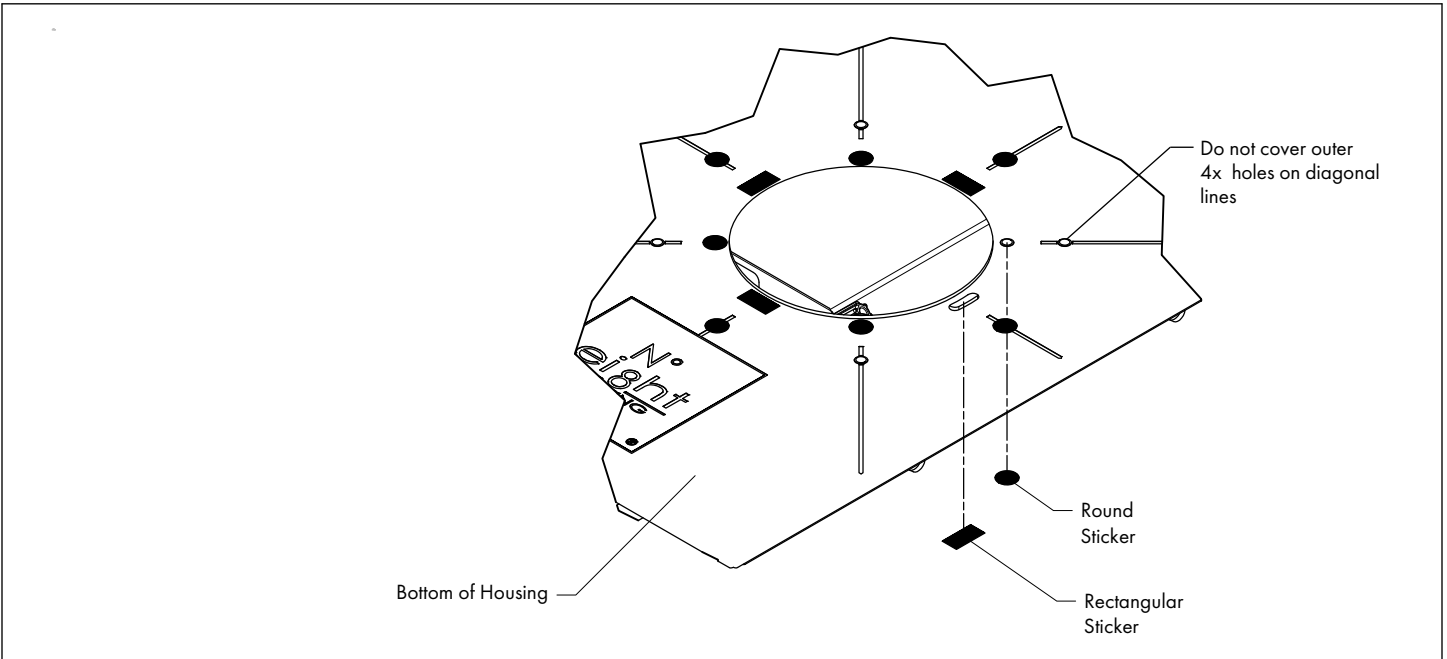

FIG 10.3 Add Stickers to Housing Aperture Holes & Slots
- STEP 5** To reduce possibility of light leak, apply Stickers over unused holes & slots as shown - **FIG 10.3**.